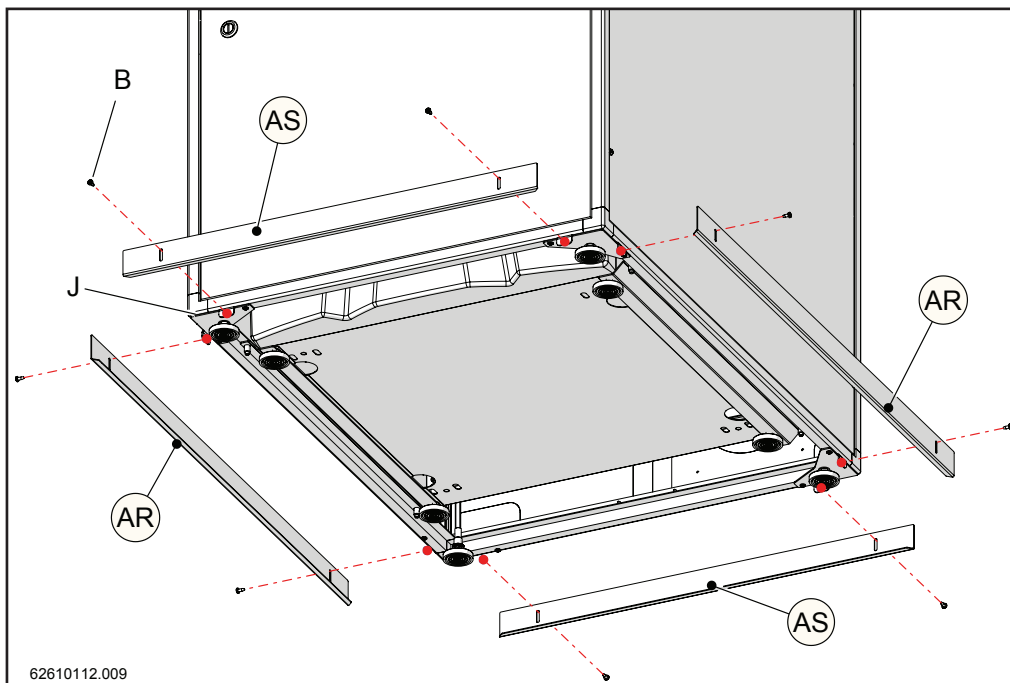

Figure 12-31
- 15.- Finally, fasten the metal plates (AR) and (AS), with screws "B", to the lower covering "J"; as shown in figures 12-31 and 12-32.